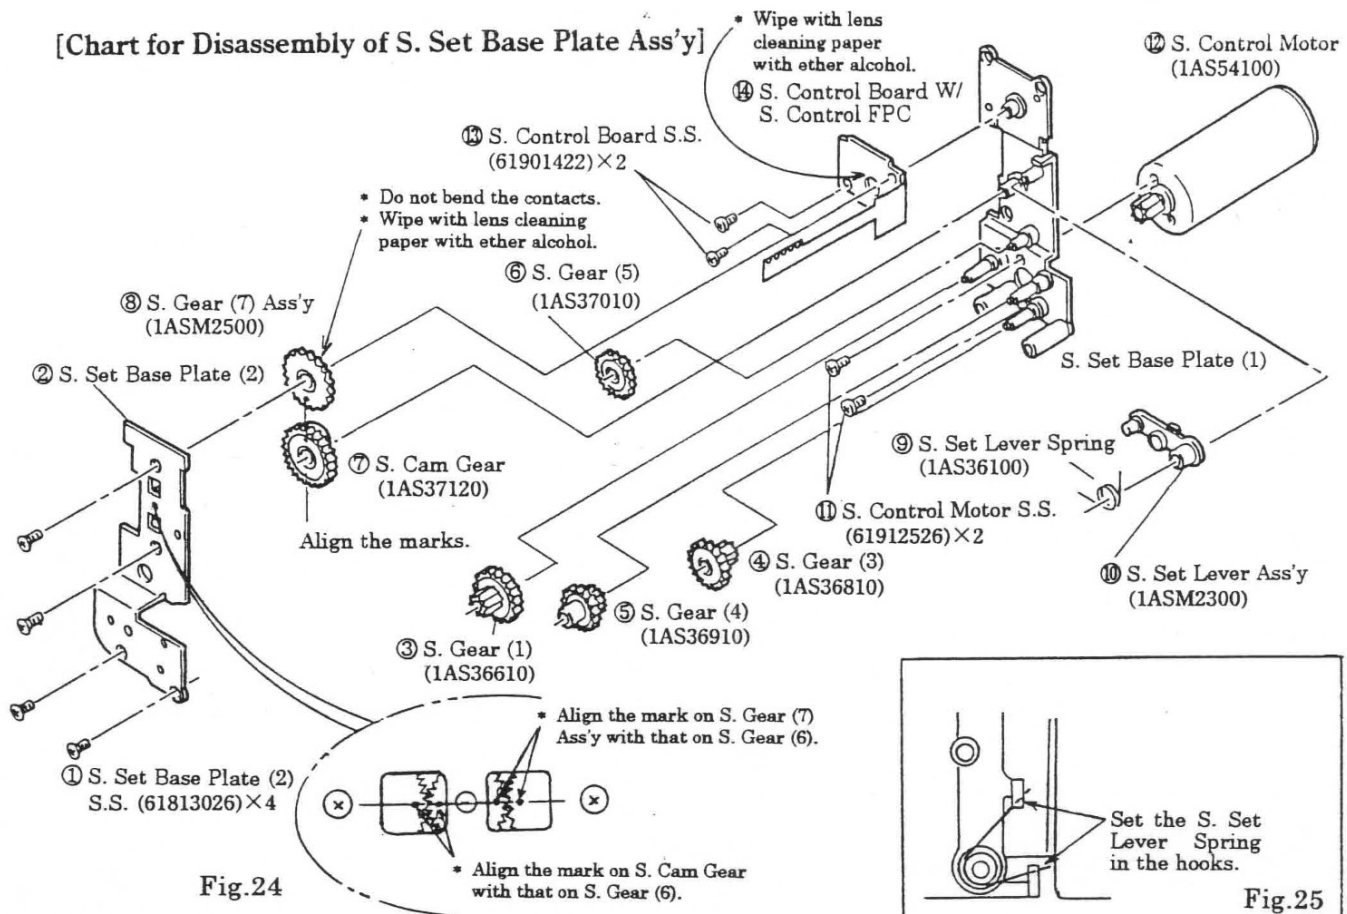
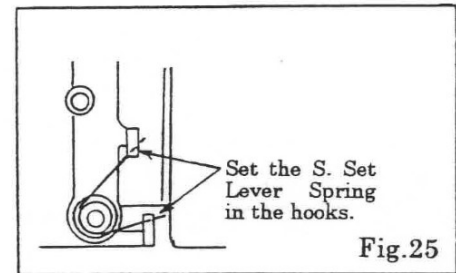

Fig. 24
Fig. 25
- 1) Remove parts in the numerical order of ① to ⑭ shown in Fig. 24.
- As shown in Fig. 25, set the S. Set Lever Spring (1AS36100) in the hook of the S. Set Lever and the hook of the S. Set Base Plate (1).
- Take care not to bend the contacts of the S. Gear (7) Ass'y (1ASM2500). Also wipe the contacts with lens cleaning paper with ether alcohol.
- Install the S. Gear (7) Ass'y (1ASM2500) and S. Cam Gear (1AS37120) so that their positioning marks are aligned. Also install the S. Set Base Plate (2) so that the positioning mark on the S. Gear (6) of the S. Set Base Plate (2) is aligned with the positioning marks on the S. Gear (7) Ass'y and S. Cam Gear. (See Fig. 24)